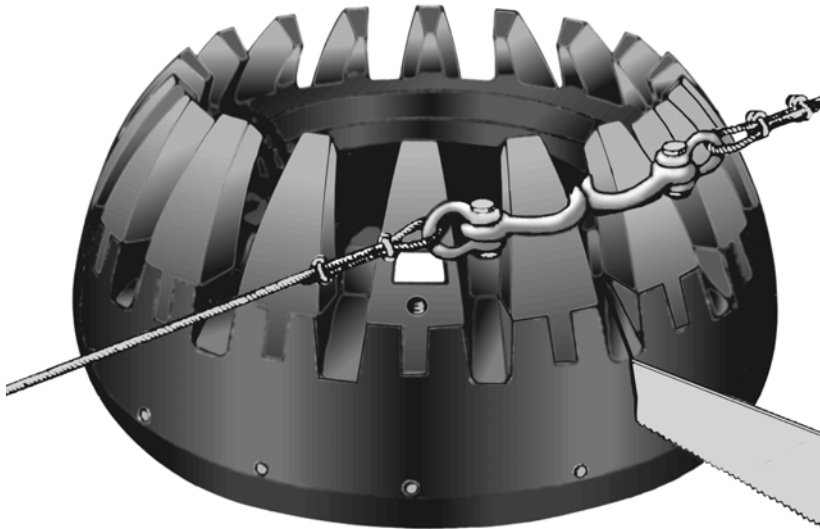

Figure 4-18. Emergency Element Replacement (Applicable to All Models)
1. Remove the worn sealing element from around the drill pipe by cutting the element with a handsaw or sharp blade (see Figure 4-18).